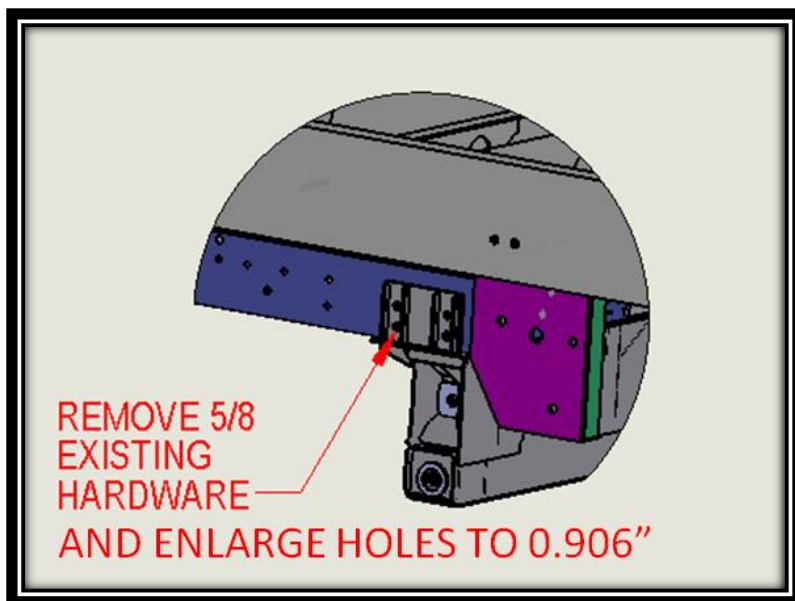

FIG. 4-1
2. Remove and properly dispose of existing 5/8" hardware shown below. Enlarge holes for suspension hanger and suspension mount to .906 dia. Refer to FIG. 4-1.